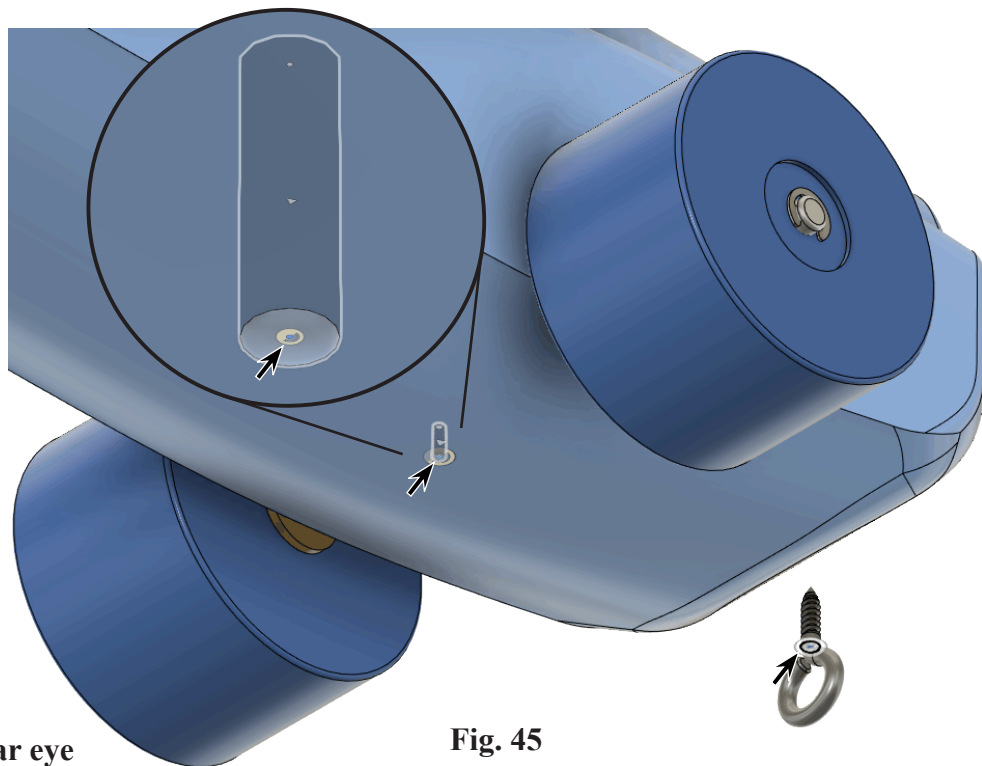

Fig. 45
Step 5. Click **Joint**  (J) in toolbar.
Step 6. Click **cylindrical edge at end of sweep on the Eye Screw for Joint Origin**  and **edge of rear eye screw hole in Body for Joint Origin** , Fig. 45.